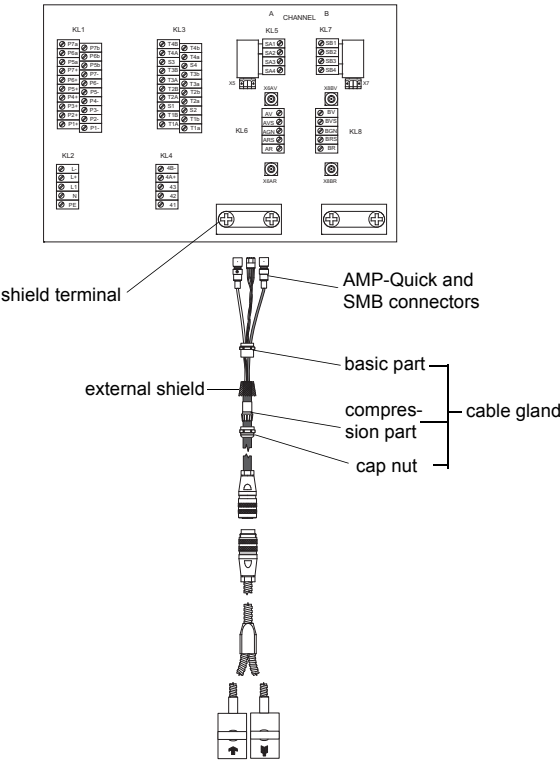

Fig. 6.9: Transducers - direct connection
- Open the cable gland of the extension cable (see Fig. 6.9).
- Push the extension cable through the shield terminal to terminal strip KL6 for measuring channel A and to terminal strip KL8 for measuring channel B (see Fig. 6.9).
- Pull the extension cable back until the brushed back external shield is below the shield terminal (see Fig. 6.9).
- Connect the AMP-Quick and SMB connectors to the sockets of the transmitter (see Fig. 6.9 and Table 6.8).